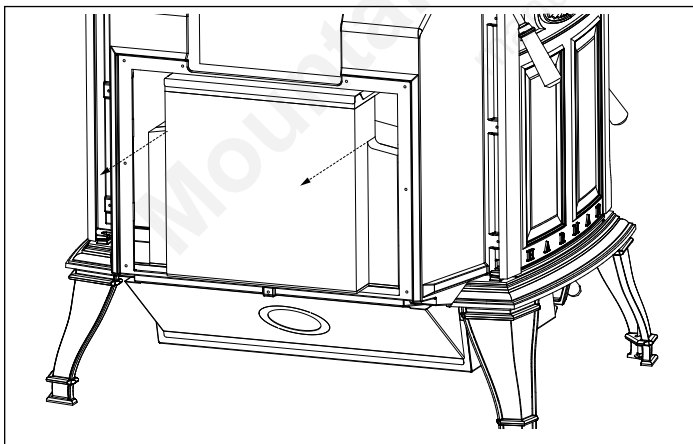

Figure 2
2. Slowly pull on combustion package and remove from the combustion cavity. Figure 2.